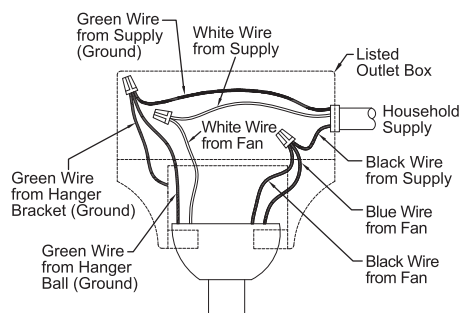

Figure 15A
2. After connections have been made, taking care not to pinch the wires and put the white and green leads to one side and the black leads towards the other side, the connection should be turned upward and carefully push leads into the outlet box. The wires should be spread apart with the grounded conductor and the equipment-grounding conductor on one side of the outlet box and the ungrounded conductor on the other side. (Fig. 15A)